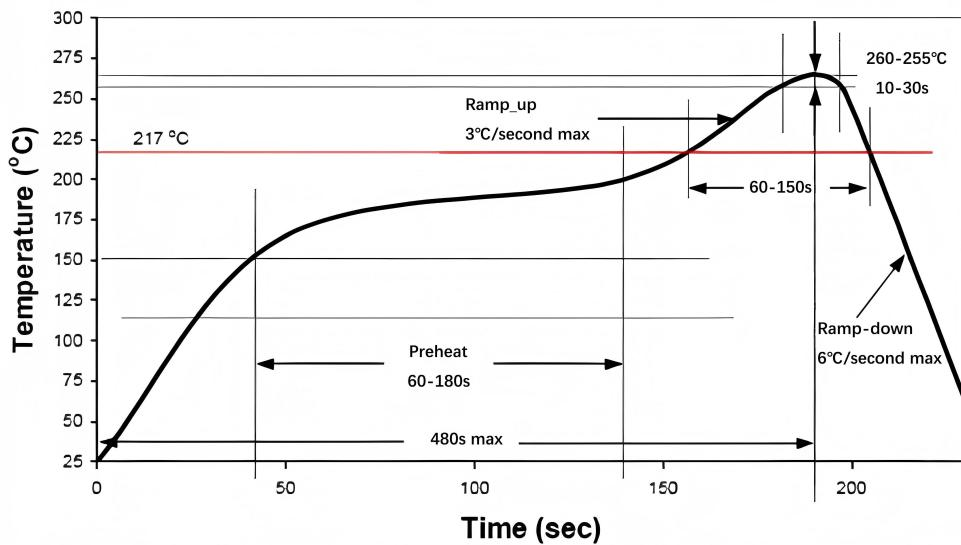

Fig.4 Reflow soldering temperature setting conditions
(1) Manual welding
(2) Reflow soldering (SMD terminal type)
- The recommended reflow oven temperature setting conditions are shown in Figure 4.